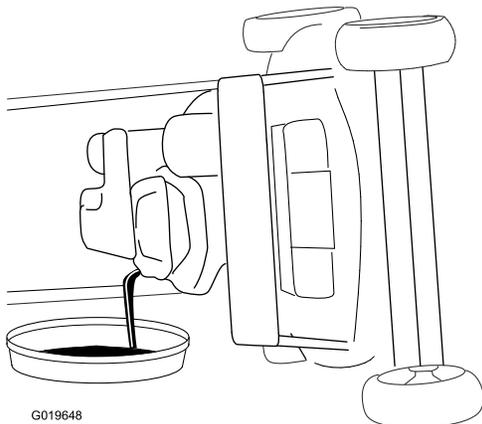

Figure 23
- Tip the machine onto its side (so that the air filter is up) to drain the used oil from the oil-fill tube (Figure 23).